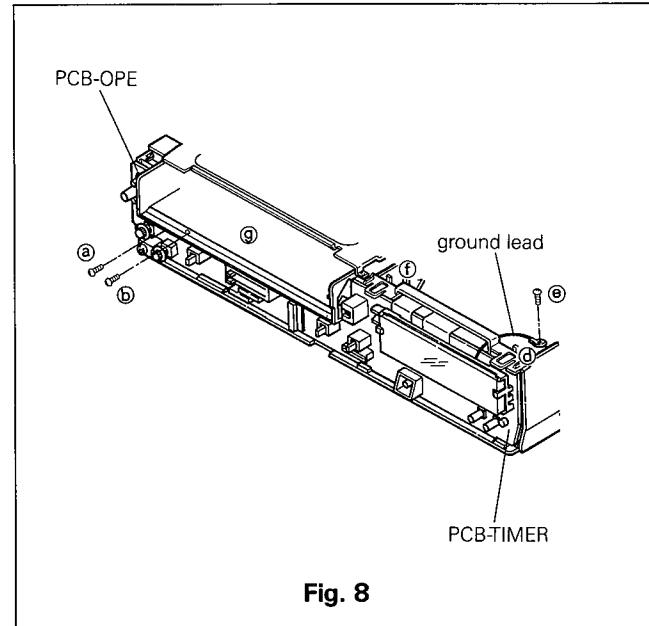

Fig. 8
- A. Remove the two screws (Ⓐ and Ⓛ) retaining the PCB OPE as shown in Fig. 8.
- A. Remove the Front Panel (Page 1, item 3)
- B. Remove the screw Ⓝ retaining the ground lead with PCB SIGNAL as shown in Fig. 8.
- C. Unfasten the three stopper (Ⓐ, ⏆ and Ⓛ) and remove the PCB TIMER as shown in Fig. 8.